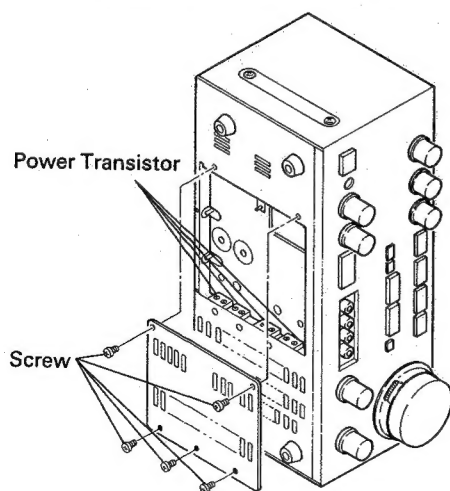

Fig. 16
2. Remove the bottom cover (Fig. 16).